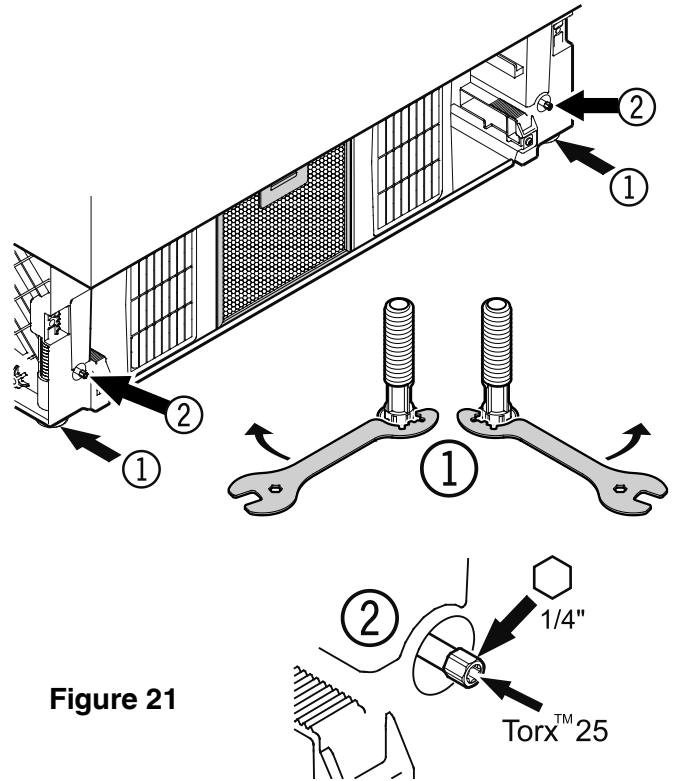

Figure 21
Leveling the Appliance - Figure 21
1. Adjust the height of the appliance at the front by twisting the leveling feet (1). Use the open-ended spanner provided. Turn the spanner counterclockwise to raise the appliance front and clockwise to lower it. Position the spanner accordingly (**Figure 21 - (1)**).
2. Adjust the height of the appliance at the rear by turning the adjusting bolts (2). Use a 1/4" box spanner or the Torx 25 wrench provided.
3. Rotate leveling feet (1) until firmly in place against the floor.
To prevent the appliance from tipping forward the leveling feet (1) (**Figure 21**) must have contact with the floor.